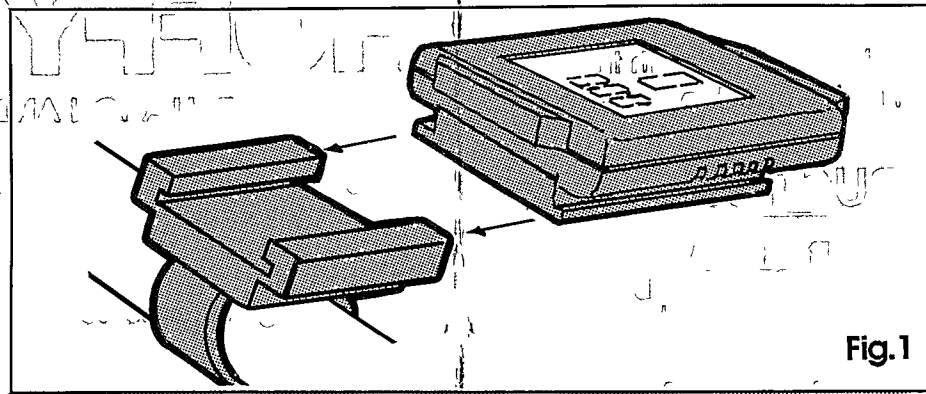

Fig. 1
1. Attach clamp to handlebar in desired location with slotted section facing forward (Fig. 1)